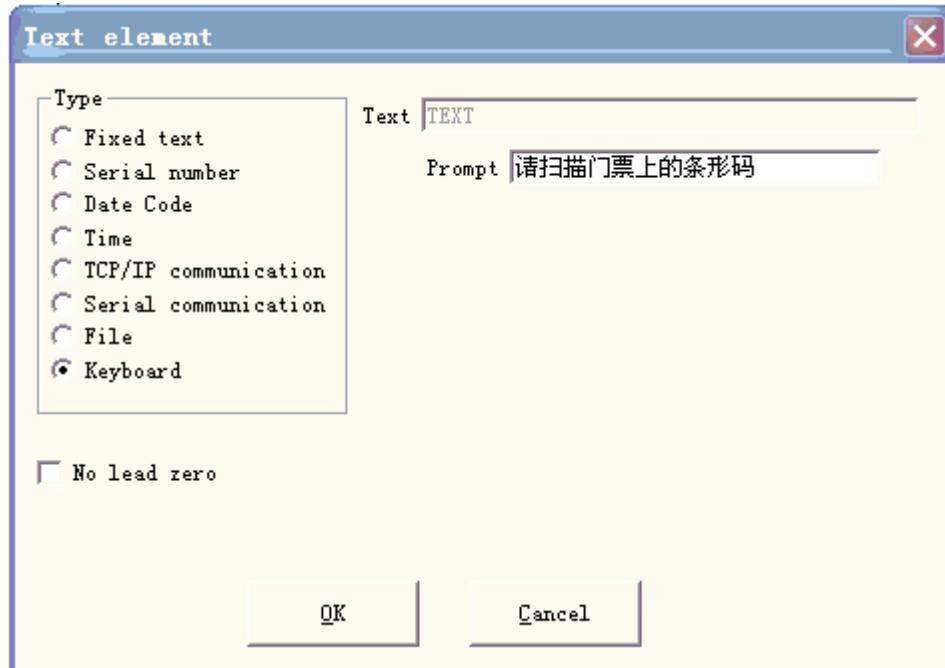

Figure 4-50-a Keyboard
establish text—→enable variable text—→add—→keyboard, such as the figure 4-50-a:
2. Input prompting message, click “OK”, then we can obtain the figure 4-50-b.